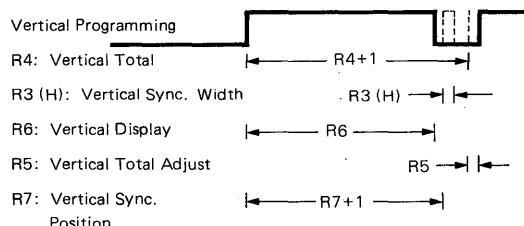

Figure 21.
* Relation between R0-R7 is in Figure 21.
- (1) Horizontal display characters column number. (N_{hd})
(2) Vertical display row number. (N_{vd})
(3) Horizontal dot numbers per character. (Dot counter ($\div N\alpha$)).
(4) Vertical raster lines per row. ($N_r + 1$)